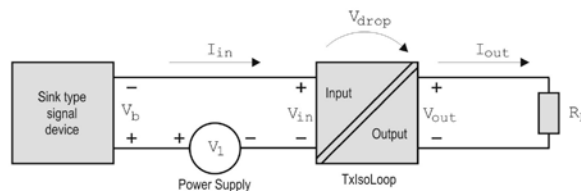

Fig. 2 – TxIsoLoop used to isolate a 2-wire transmitter
2. In sink type devices (2-wire transmitters) the energy is provided by an external power supply in series in the loop, as shown in Fig. 2.